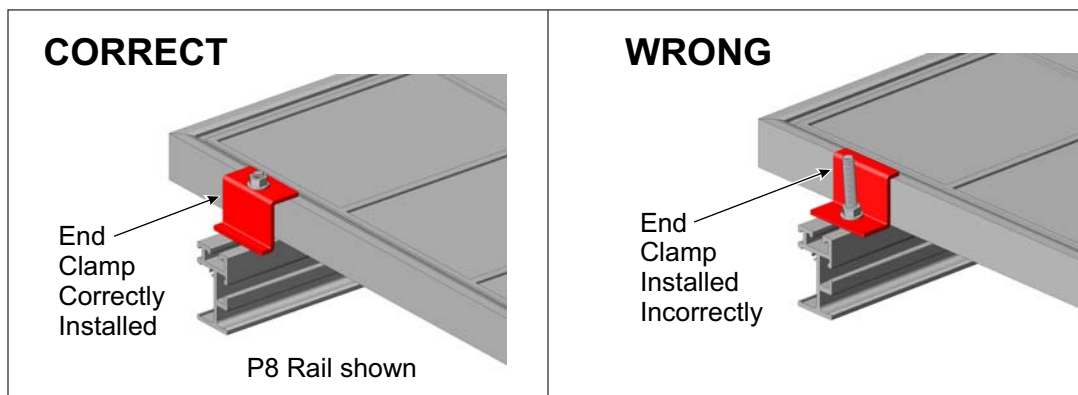
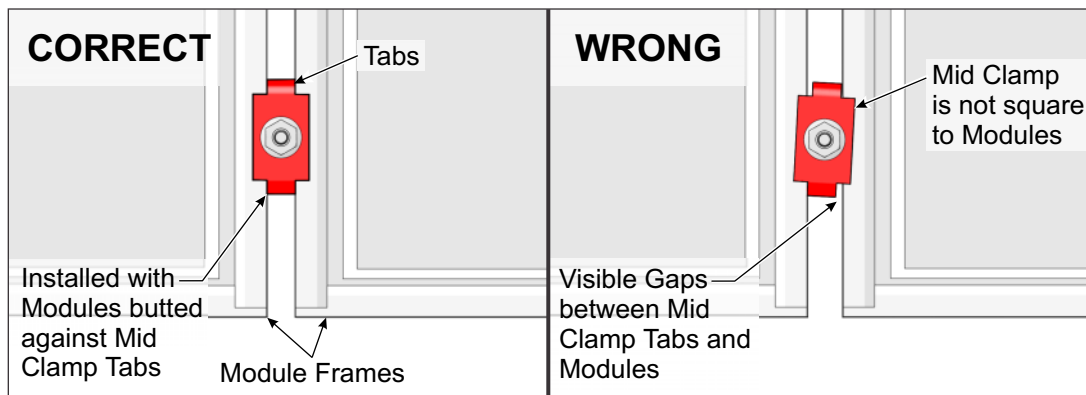

Figure 8-1: Correct and Wrong methods of installing Standard End-Clamp (using Carriage or RAD Bolts)
Figure 8-2: Correct and Wrong methods of installing a Mid Clamp (using Carriage or RAD Bolts)
There is only one correct method of installing End Clamps and Mid Clamps. Failure to follow the correct method could lead to personal injury, structural failure, and/or damaged components. See Figure 8-1 for proper method of installation for an End Clamp and Figure 8-2 for the Mid Clamp. Refer to these figures during the installation of the Modules to prevent any problems associated with an improper installation.
- B. Insert one 5/16" x 2, 2-1/4, 2-1/2, 2-3/4, or 3" carriage bolt into the top slot of the Power Rail. Push the bolt against the side of the module frame. Install End Clamp onto bolt and secure with 5/16" flange nut. **Torque to 14-16 ft.-lbs.** (See Figures 8-1 and 8-3)
- E. Push Modules against Mid Clamp tabs and secure Mid Clamp with 5/16" flange nut. **Torque to 14-16 ft.-lbs.** (See Figures 8-2 and 8-5)
- B. Insert one 5/16" x 2, 2-1/4, 2-1/2, 2-3/4, or 3" RAD bolt into the top slot of the Power Rail. Push the bolt against the side of the module frame and twist to lock in place. Install End Clamp onto bolt and secure with 5/16" flange nut. **Torque to 14-16 ft.-lbs.** (See Figures 8-1 and 8-6)
- F. Push Modules against Mid Clamp tabs and secure Mid Clamp with 5/16" flange nut. **Torque to 14-16 ft.-lbs.** (See Figures 8-2 and 8-7)